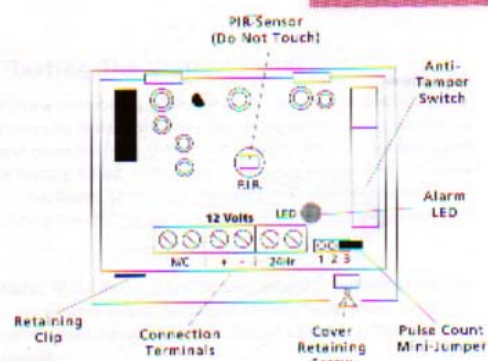

Fig. 7. PIR Detector PCB Layout
2. Slightly loosen the bottom securing screw of the PIR and remove the cover. Remove the PCB by un-clipping the PCB from the base (observe the clip at the bottom left of the casing). (See Fig. 7, Page 12)